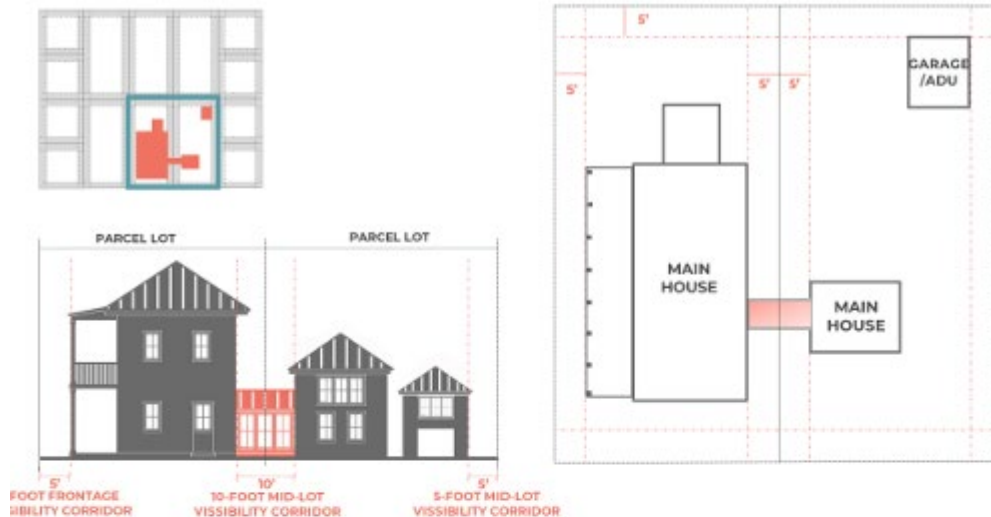

Figure 18: Sideyard Visibility Corridor – Enclosed Breezeway option.
- **Mechanical** – Per LDC 4.02.03(A)7, “Mechanical equipment may be located within the side or rear yard setback, but not closer than five (5) feet to side or rear yard lot lines.” There are no changes to the location of mechanical equipment.
- **Visibility Corridors** – The existing home has a non-conditioned porch which extends into the adjoining lot 6 by approximately 2 feet. The proposed new covered porch continues to be non conditioned and would be a permissible improvement into mid-lot visibility corridor. Examples of this type of allowable improvement are provided in the 2021 Old Town Design Guidelines in Figures 18 and 19 as pictured below.